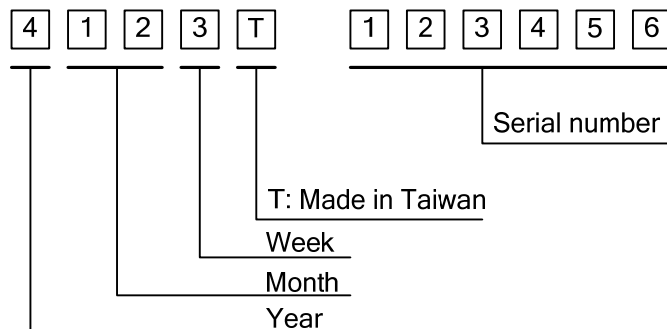

Fig. 13.1
- 1) The lot mark is showing in Fig.13.1. First 4 digits are used to represent production lot, T represented made in Taiwan, and the last 6 digits are the serial number.